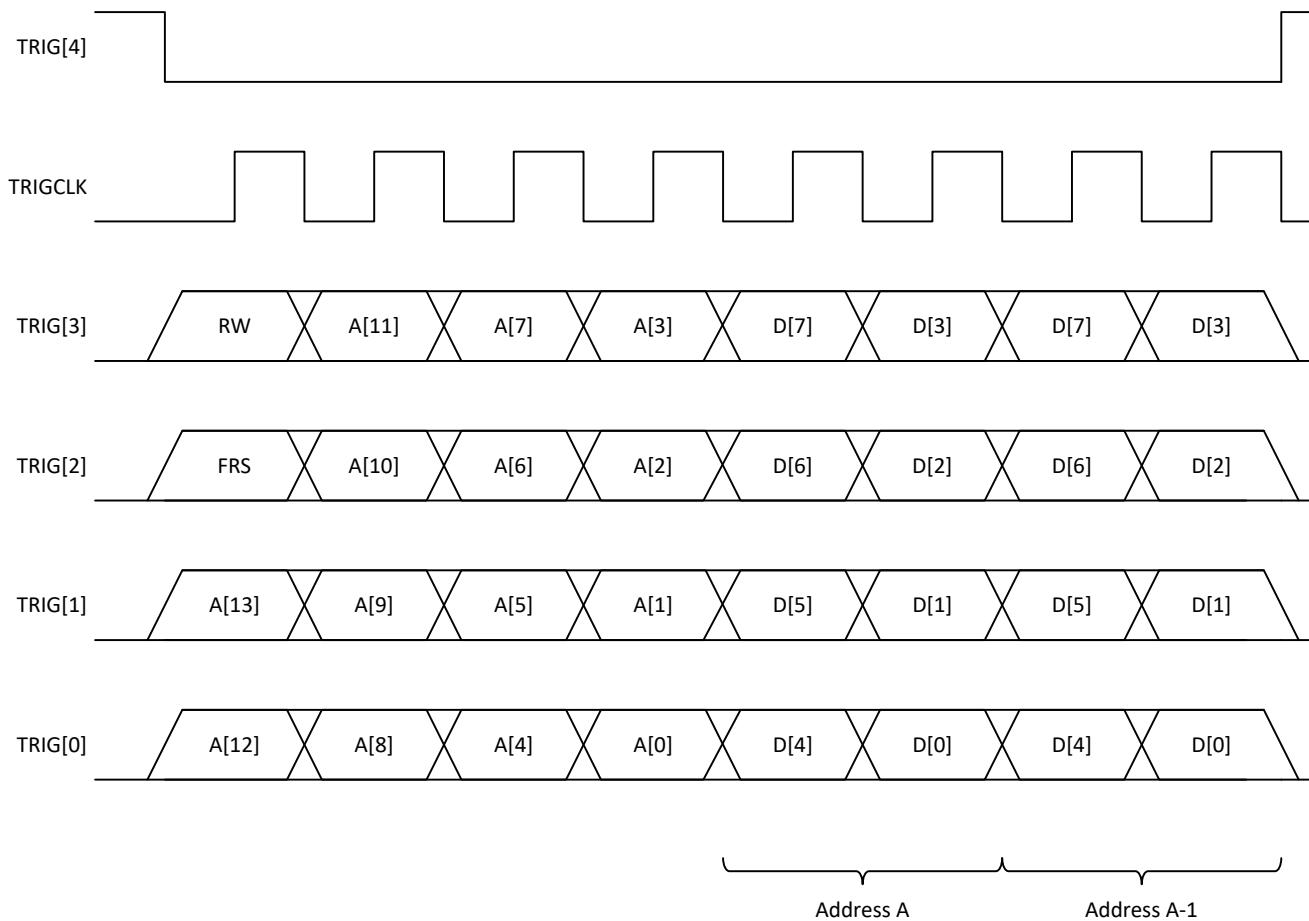

Figure 8-3. FR Interface Timing Diagram
The Fast Reconfiguration (FR) interface provides fast write-only access to configure PFIR coefficients and NCO frequency and phase. The FR interface is similar to the SPI interface, but 4 bits are sent per clock cycle, and the external trigger pins are reused. The FR timing diagram is shown in Figure 8-3. It uses a R/W bit (always set to 0 to indicate a write for this device), a transaction sync bit FRS (always set to zero as transaction synchronization is not supported for this device), and 14-bits of address followed by some number of data bytes. The address is decremented after each data byte (consistent with little-endian). The interface is byte addressable and data is committed after each byte. The FR interface is takes 4-bits (one nibble) per clock. For multi-nibble fields, data is sent most-significant nibble first. When the transaction sync bit (FRS) is set, the synchronization event specified in the **NCO_SYNC_SRC** register field occurs at the rising edge of **FRCS**. Transactions ended before the completion of the first data byte may not trigger the sync event.